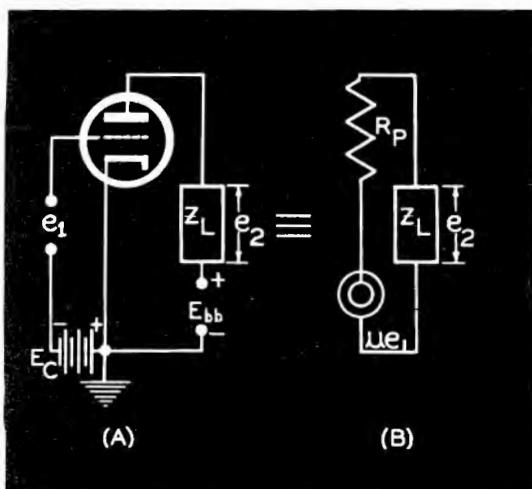

Figure 1
Figure 2 (left), a constant current circuit wherein the current $G_m e_1$ generated, flows into the plate resistance R_p of the actual tube and the external load impedance Z_L in parallel. Figure 3 (right), a constant current circuit equivalent to the constant (generated) voltage circuit shown in Figure 1 (B).